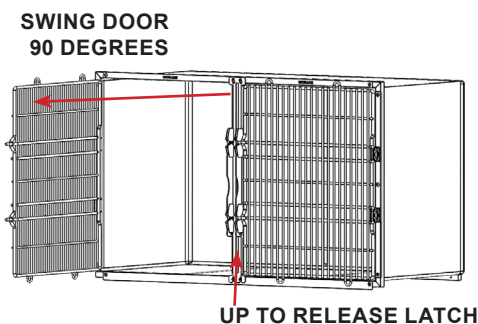

FIGURE 3.1 - Open Door
- A:** Slide the latch bar up and swing the door to the open position (90° to cage face). See FIGURE 3.1